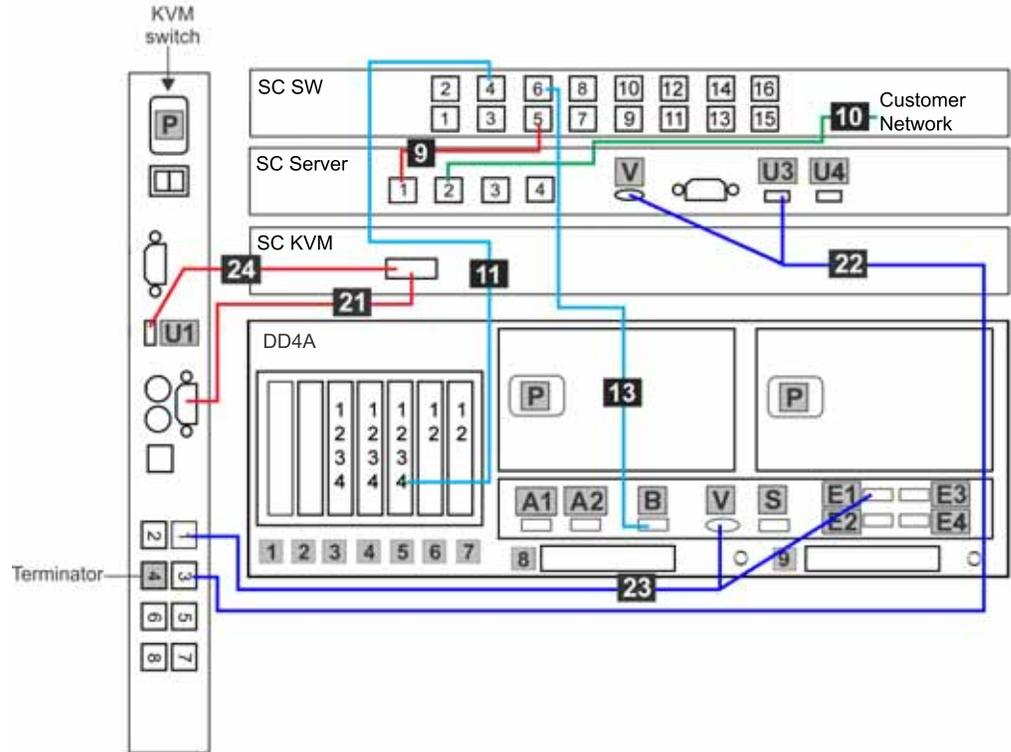

Figure 15. TSSC, KVM and customer network Ethernet connections for stand-alone OpenStorage configuration
- Depending upon the model of the TSSC and TSSC network switch being used, the port layout may differ from what is shown in Figure 15 on page 41. If so, make the cable connections according to the port number assignments specified in Table 12 on page 41, regardless of the position of the ports on the TSSC or the switch. Refer to the *IBM System Storage TS3000 System Console (TSSC) Maintenance Information* for detailed port information.